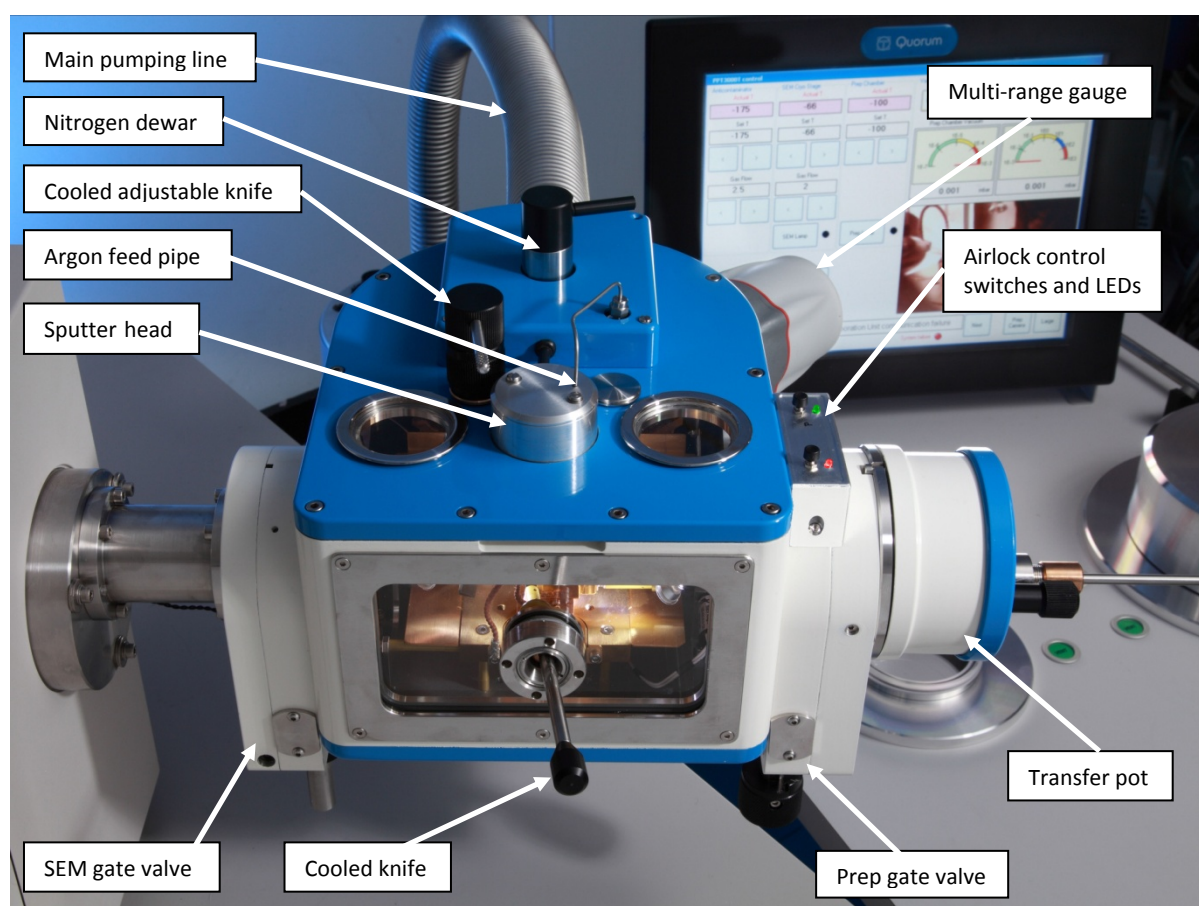

Figure 3 - Preparation chamber
2.3. Column mounted preparation chamber (Figure 3)